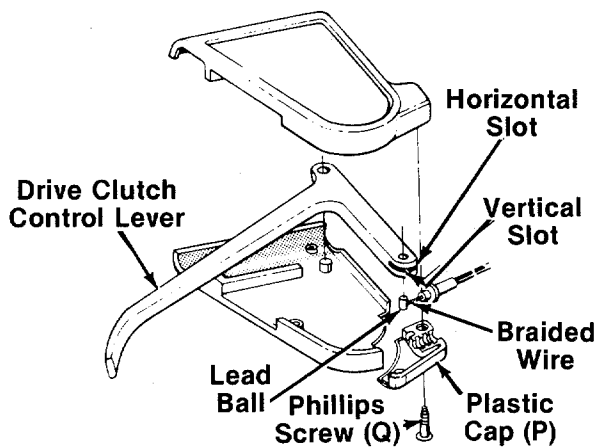

FIGURE 9.
- b. Slide the braided wire around in the horizontal slot. See figure 9.
- d. Secure the plastic cap (P) to the clutch control housing using the two Phillips head screws (Q). See figure 9.